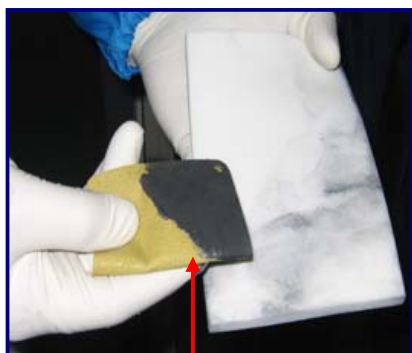

Fig 1: ScrubPAD loaded with deposition water
- Step 5:** Unload the ScrubPAD of deposition by wiping the UltraSOLV[®] HT4754 Sponge with the ScrubPAD in one direction (See Fig 1, 2 & 3)